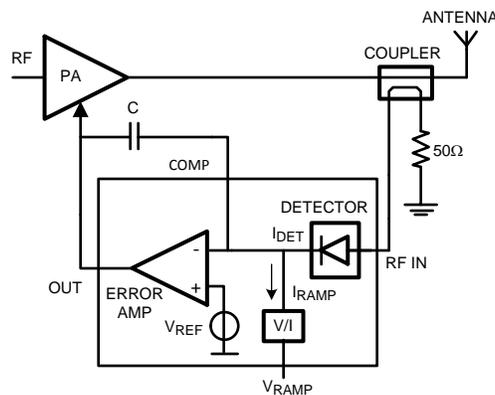

Figure 26. PA Control Loop
This section should give a general overview and understanding of how a typical Power Amplifier control loop works and how to get rid of some of the most common problems confronted in the design. Figure 26 shows the generic components of such a loop. Beginning at the output of the GSM Power Amplifier (PA), this signal is fed, usually via a directional coupler, to a detector. The output current of the detector I_{DET} drives the inverting input of an op amp, configured as an integrator. A reference voltage drives the non-inverting input of the op amp. Finally the output of the op amp integrator drives the gain control input of the power amplifier. Now to examine how this circuit works, we will assume initially that the output of the PA is at some low level and that the V_{RAMP} voltage is at 1V. The V/I converter converts the V_{RAMP} voltage to a sinking current I_{RAMP} . This current can only come from the integrator capacitor C . Current flow in this direction increases the output voltage of the integrator. This voltage, which drives the PA, increases the gain (we assume that the PA's gain control input has a positive sense, that is, increasing voltage increases gain). The gain will increase, thereby increasing the amplifier's output level until the detector output current equals the ramp current I_{RAMP} . At that point, the current through the capacitor will decrease to zero and the integrator output will be held steady, thereby settling the loop. If capacitor charge is lost over time, the gain will decrease. However, this leakage will quickly be corrected by additional integrator current from the newly reduced detector current.